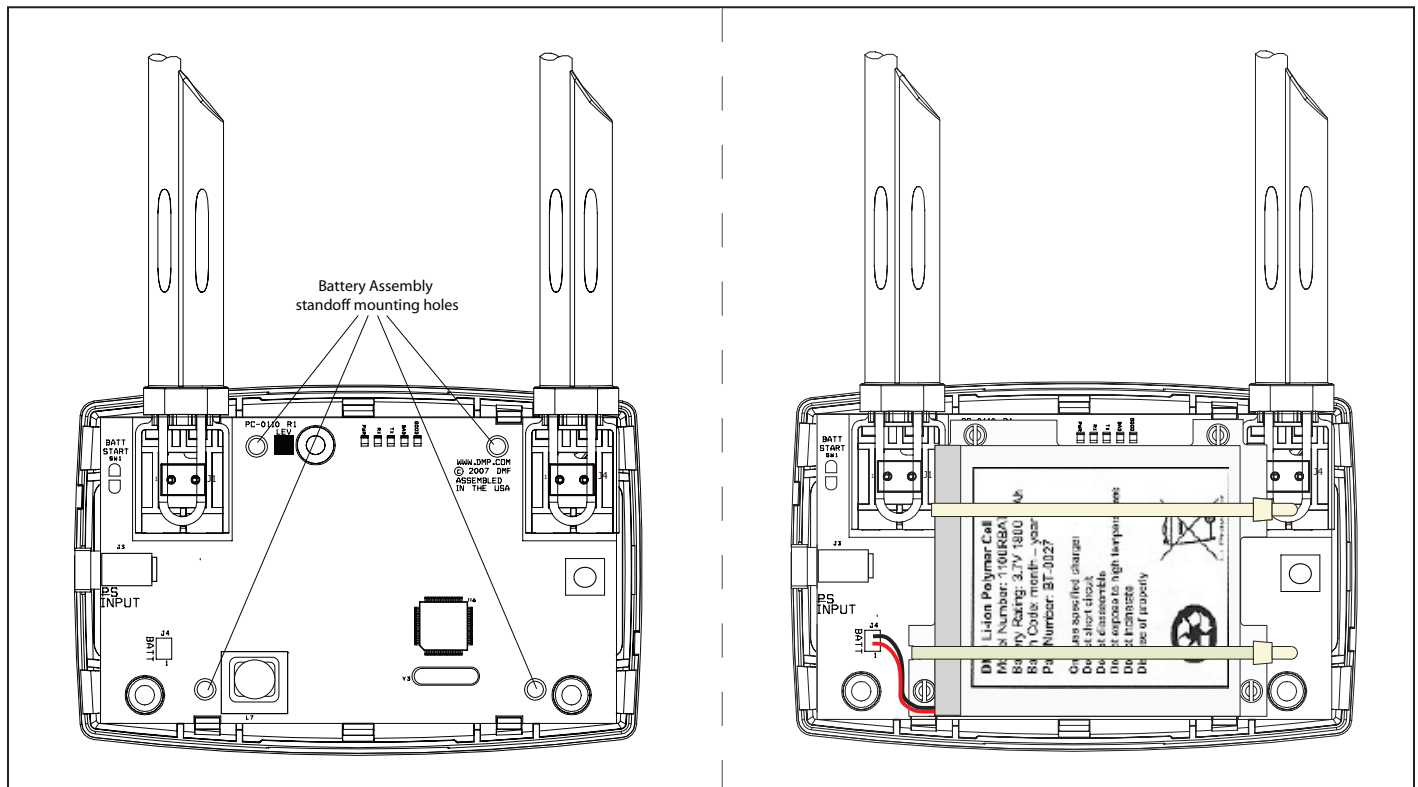

Figure 2: Battery Assembly
1. Align the four battery PCB standoffs with the standoff mounting holes. See Figure 2.